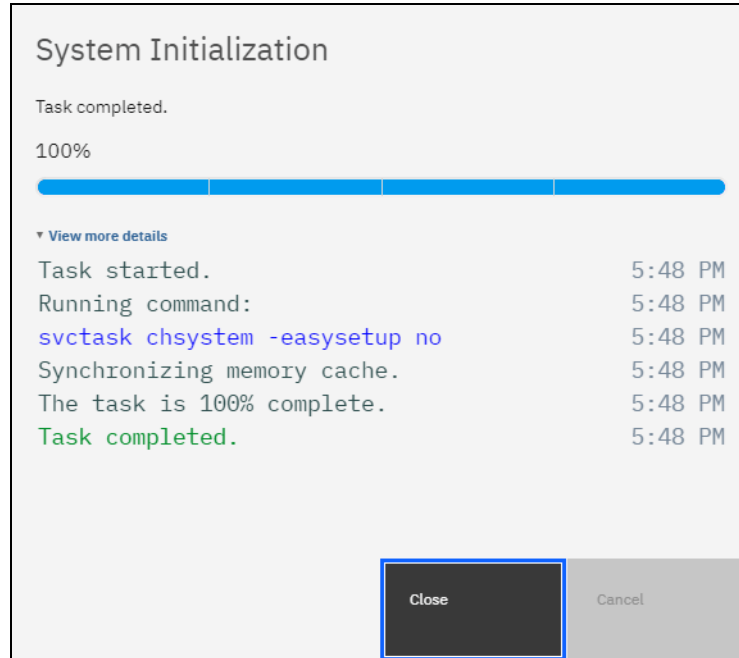

Figure 2-39 System Initialization
27. With pressing **Finish** you confirm your choices. See Figure 2-39.
Click **Close** as shown in Figure 2-39.